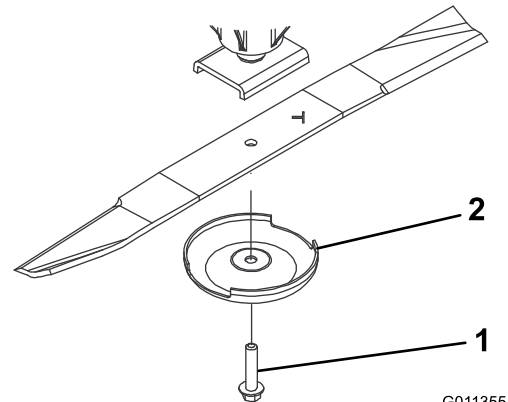

Figure 123
- Remove the blade bolt, anti-scalp cup, and blade from the spindle shaft (Figure 123).